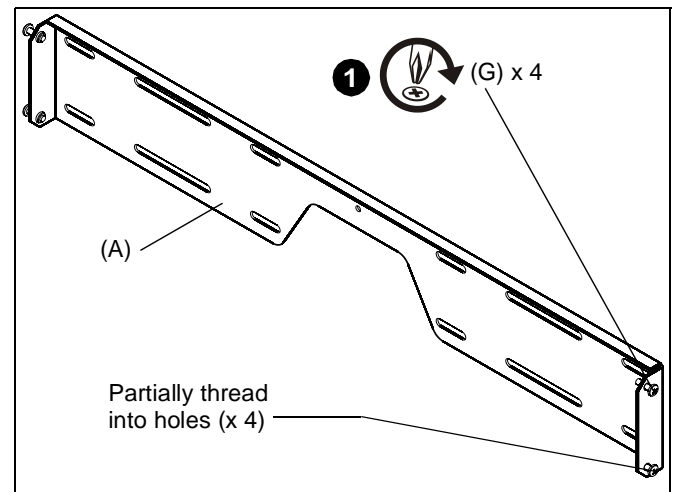

Figure 10
1. Insert four 10-24 x 5/8" Phillips screws (G) into the sides of the wall bracket (A) and partially thread them into the holes. (See Figure 10).
2. Lift speaker and tip towards wall bracket, engaging the speaker bracket (B and C) top slots over the wall bracket top screws. (See Figure 10)
3. Swing the speaker down, engaging speaker bracket bottom slots over wall bracket bottom screws. (See Figure 10)